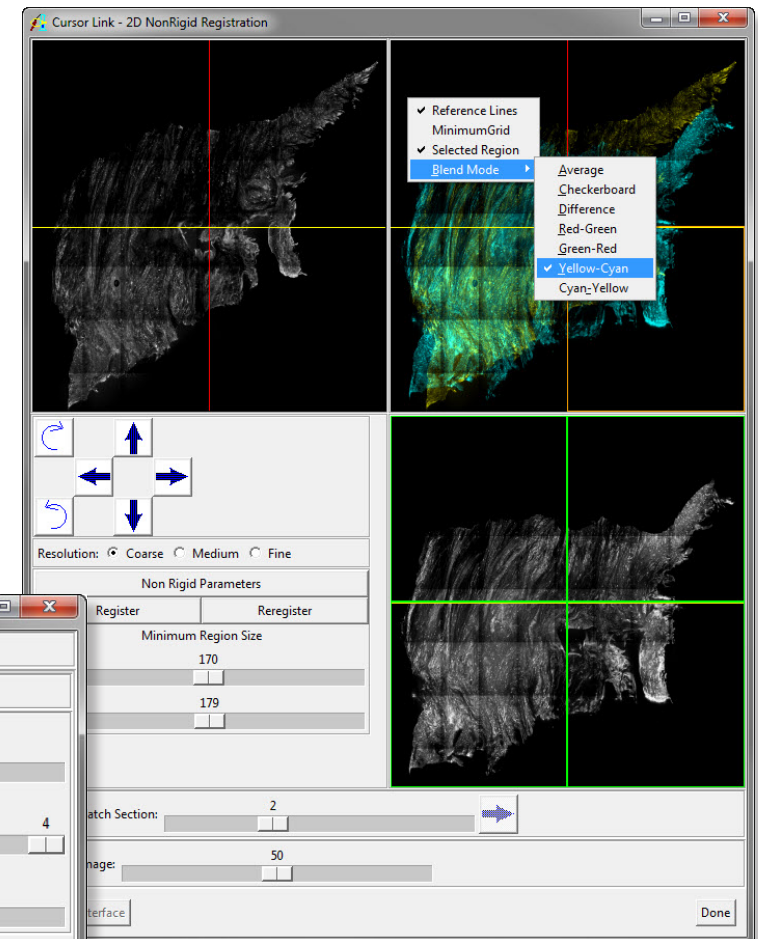

Figure 1
3. Open the **Control Window** (**Generate > Control**) (figure 1). Two Registration Modes are provided, Sections or Slabs.